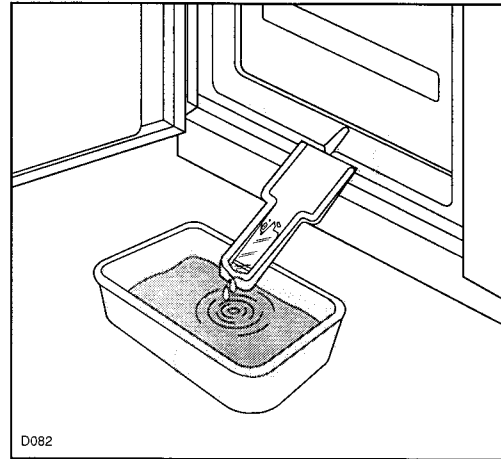

Fig. 9
- turn the thermostat dial to the «OFF» position (O) or disconnect the appliance from the mains.
- Leave the door open and insert the ice scraper under the channel in the centre of the lower part of the appliance, place a low-sided container beneath the scraper to collect the water (Fig. 9).